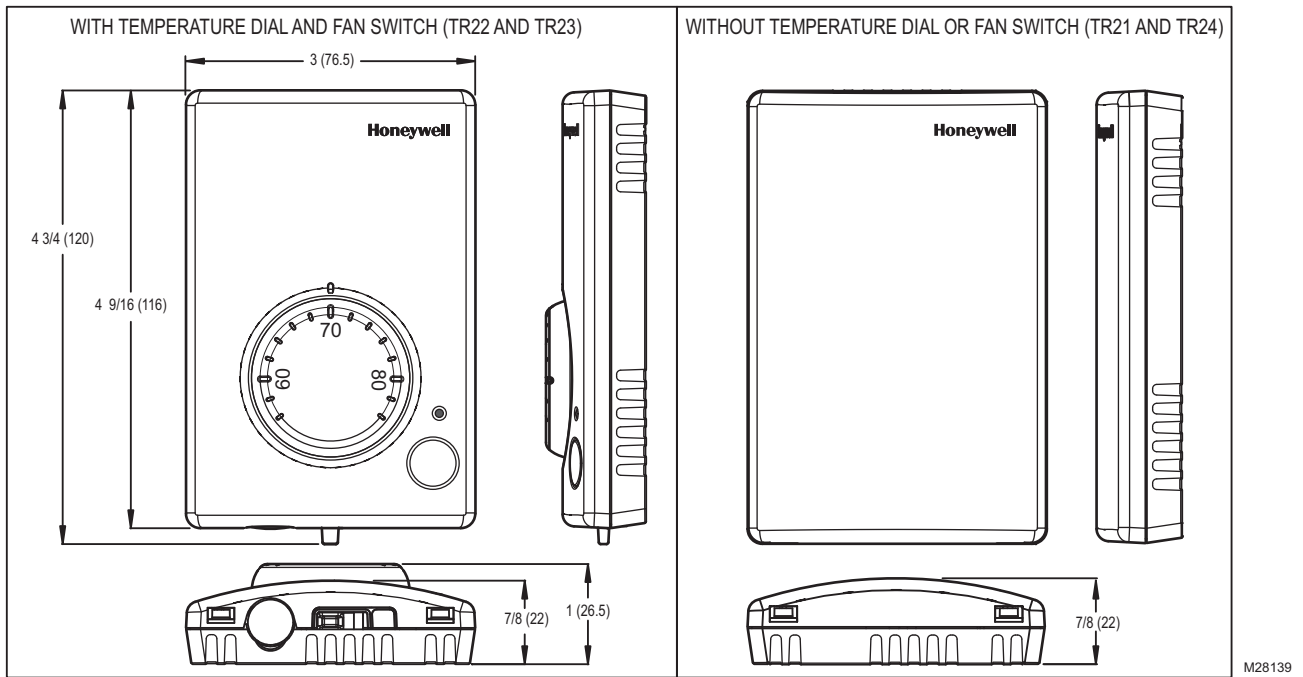

Fig. 2. Wall module dimensions in inches (mm).
**Dimensions (H/W/D):** See Fig. 2 on page 3.